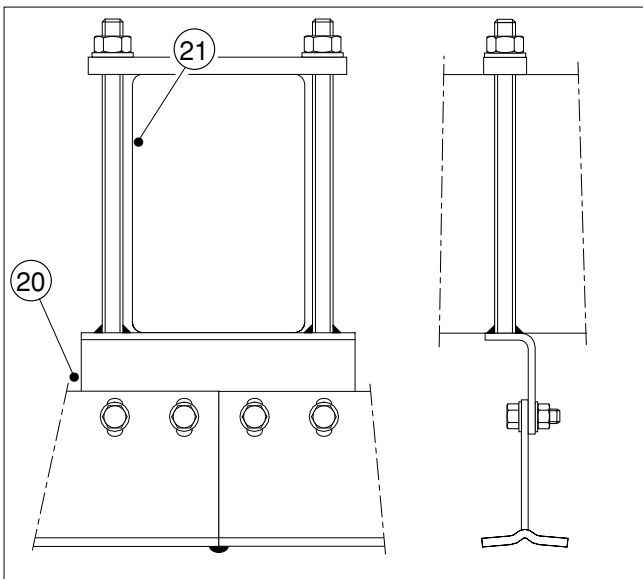

fig.14.2
- clamping the connecting strip to the beam. See figure 14.2.